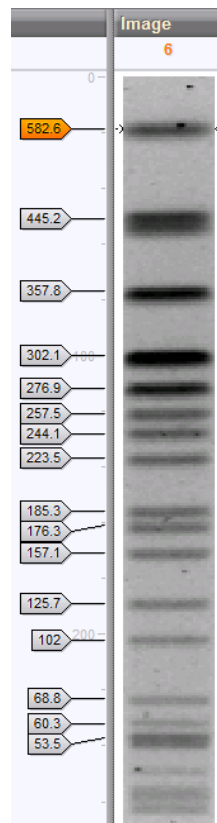

Figure 12: Reference system.
37. Repeat the process for each band in lane **6** as shown in Figure 12.